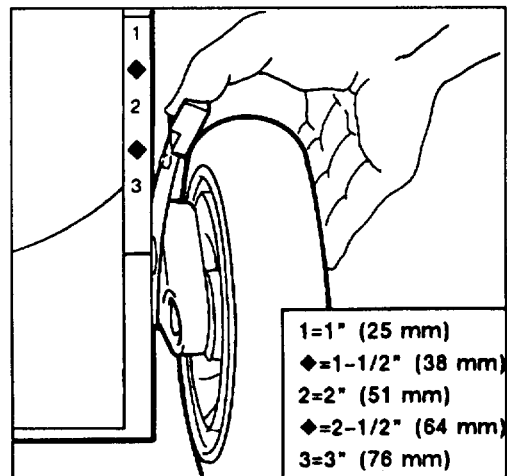

Figure 9
2. For easier adjustment, lift housing up so wheel is off ground. Squeeze adjusting lever toward wheel and move to desired setting (Fig. 9). Assure pin on adjusting lever engages notch in housing. Adjust all wheels to the same setting.